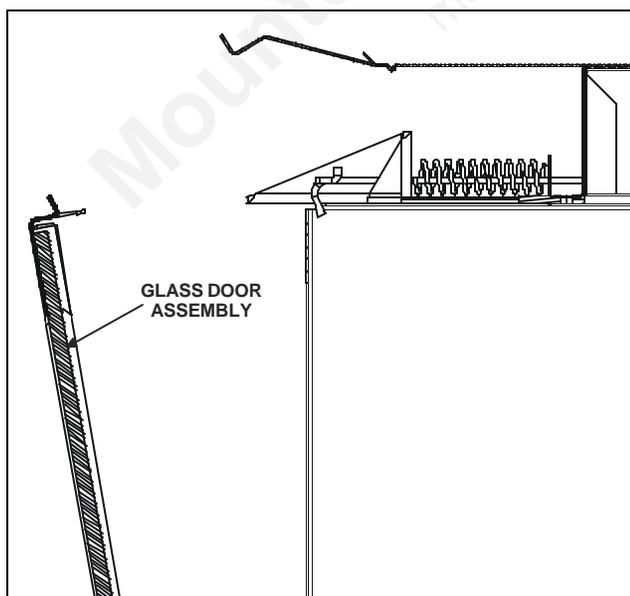

FIGURE 34.
- Noting carefully how the brackets fit on the glass, release the two spring latches at the top and two at the bottom of the glass door. Carefully lift the glass up and out away from the appliance. See Figure 34.